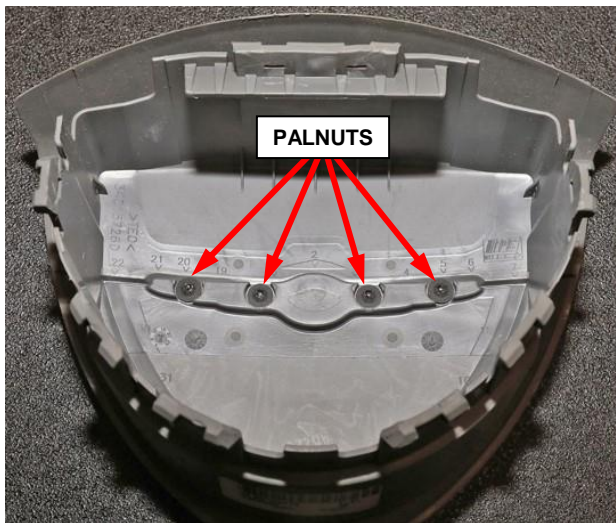

Figure 13 – Remove Cover from Cushion
IMPORTANT: Hold the inflator as it could be loose during this process. Reference cushion and inflator position prior to separating from the cover. It is not necessary to separate the inflator from the cushion (Figure 13).
8. The cover can be removed from the cushion by inverting the assembly and pulling back the top of the cover. The cushion and inflator should fall free from the cover (Figure 13).